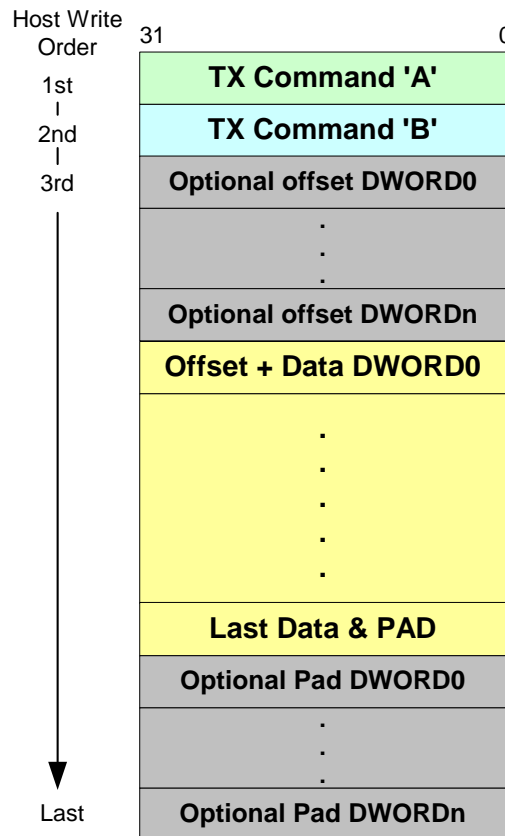

Figure 3.14 TX Buffer Format
Figure 3.14, "TX Buffer Format", shows the TX Buffer as it is written into the LAN9115. It should be noted that not all of the data shown in this diagram is actually stored in the TX data FIFO. This must be taken into account when calculating the actual TX data FIFO usage. Please refer to Section 3.13.5, "Calculating Actual TX Data FIFO Usage," on page 53 for a detailed explanation on calculating the actual TX data FIFO usage.
**Note 3.15** The LAN9115 host bus interface supports 16-bit bus transfers; internally, all data paths are 32-bits wide. Figure 3.14 describes the host write ordering for pairs of atomic 16-bit transactions.